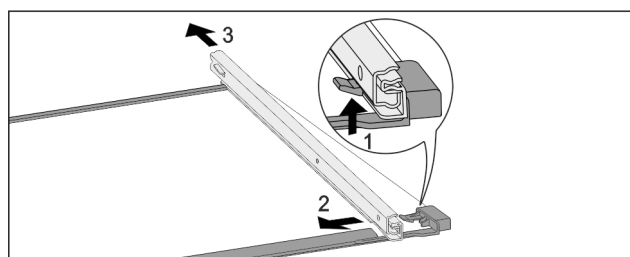

Fig. 60 Glass shelf with rails
- Push up front click-in hooks. Fig. 60 (1)
- Move the pull-out rails to the side Fig. 60 (2) and to the rear Fig. 60 (3).